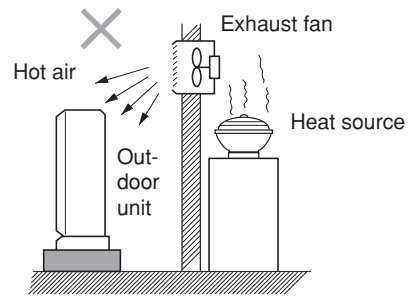

Fig. 2-5
- heat sources, exhaust fans, etc. (Fig. 2-5)